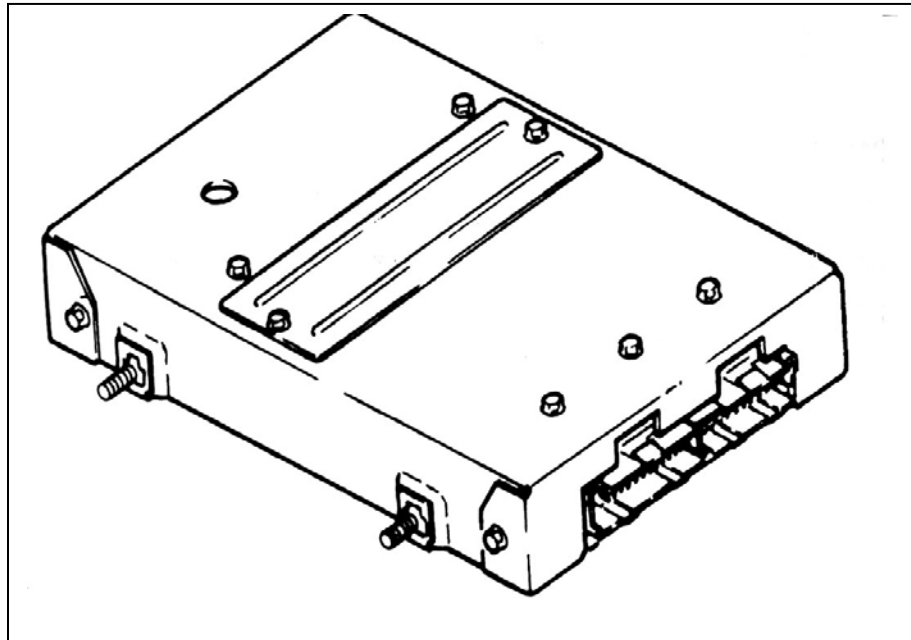

Figure 4.1 Fuel Injection Computer
- **LATE VERSION TUNED PORT INJECTION (TPI) SYSTEM WITHOUT A MASS AIRFLOW (MAF) SENSOR, DESIGNED TO USE A MANIFOLD ABSOLUTE PRESSURE (MAP) SENSOR, BUT DOES NOT REQUIRE AN ELECTRONIC SPARK CONTROL (ESC) MODULE:** The 60103 and 60203 harnesses are designed for and will support this system. This system has three connectors at the computer instead of the two connectors shown in **Figure 4.1**.